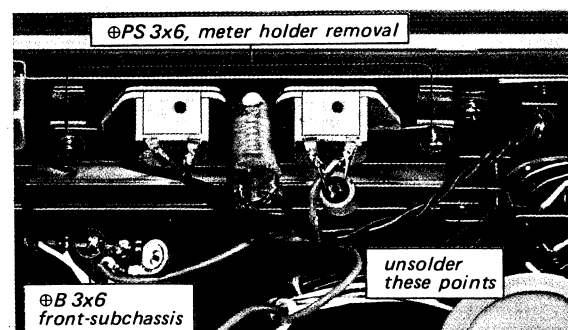
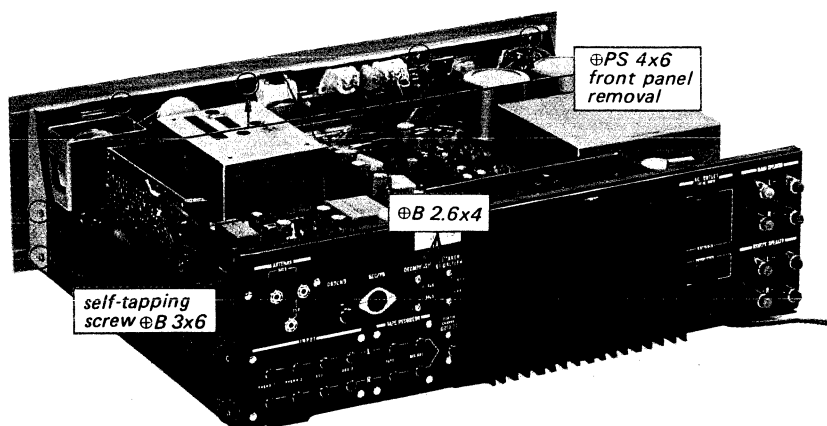
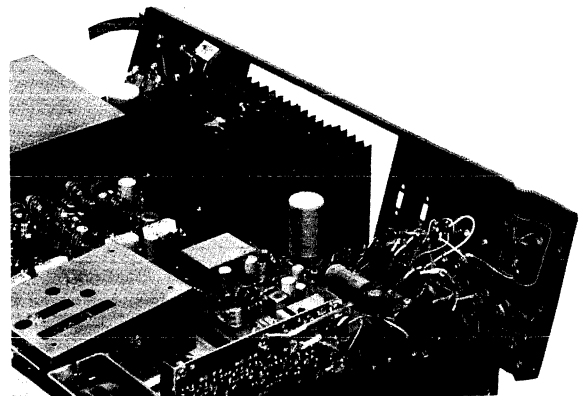

Fig. 2-3 Front subchassis removal
Fig. 2-4 Rear view
Fig. 2-17 Rear panel removal
3. Remove the four screws (\oplus PS 4x6) behind the top edge of the front subchassis as shown in Fig. 2-4.
2. Remove the two self-tapping screws (\oplus B 3x6) at each side of the chassis (see Fig. 2-4) and one screw (\oplus B 3x6) securing the terminal strip to the chassis as shown in Fig. 2-3.
3. Unsolder the lead wires from the dial lamp socket as shown in Fig. 2-3.
3. Remove the two screws ($\text{#PS } 3 \times 6$) securing the meter holder to the front subchassis as shown in Fig. 2-3.
3. Remove the four screws ($\text{Ø} B 2.6 \times 4$) securing DE-EMPHASIS and SPEAKER EQUALIZER switches to the rear panel as shown in Fig. 2-4.
5. Remove the two self-tapping screws ($\text{Ø} B 3 \times 6$) at each side of the chassis as shown in Fig. 2-4. This frees the rear panel as shown in Fig. 2-17.